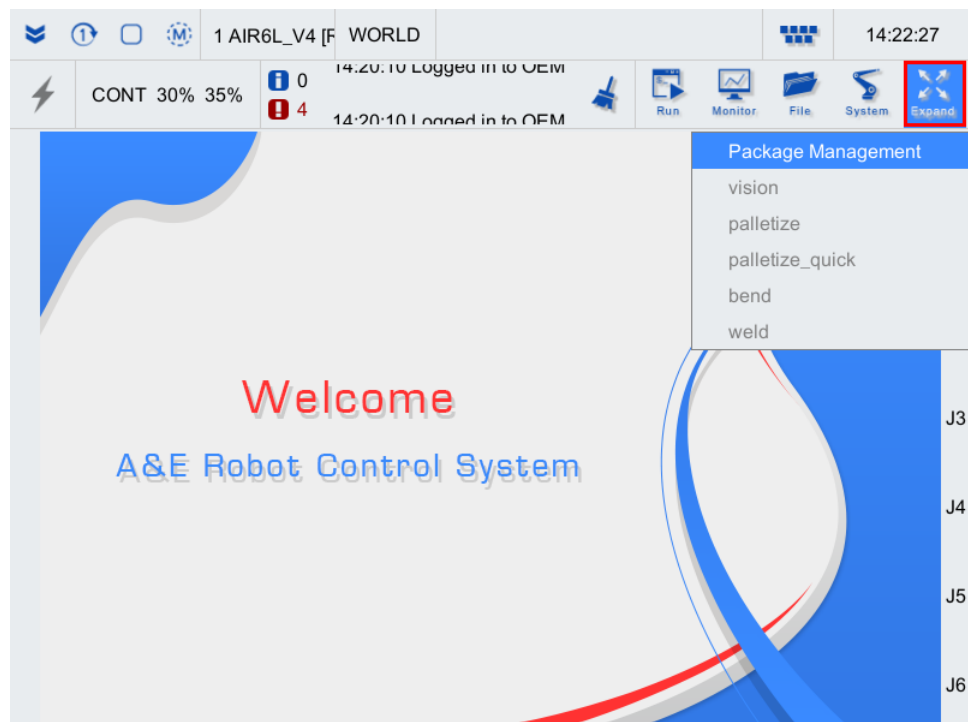

Fig. 3-1 List of feature pack
Step 3. Click "Expand" button to pop up the drop-down list shown in Fig. 3-1.